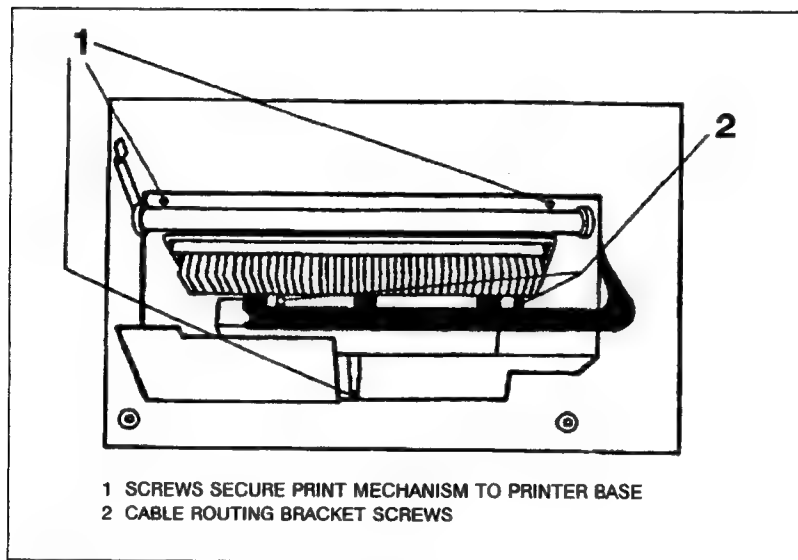

Figure 6-9. Print Mechanism (Top View)
- b. Remove the two pozidrive screws which secure the print bar hammer driver cable routing bracket (see Figure 6-9, item 2).